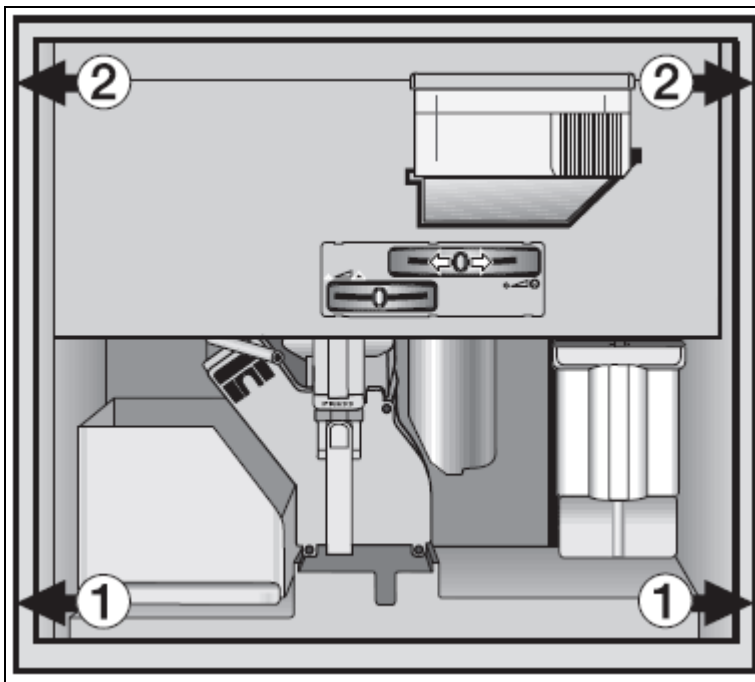

Figure 2-2: Installation Information
4. Carefully turn the lower screws (Figure 2-2, Item 1) to center the machine in the cabinet.
5. To secure the appliance in the cabinet, tighten the upper screws (Figure 2-2, Item 2) carefully by hand. Do not use an electric screwdriver.